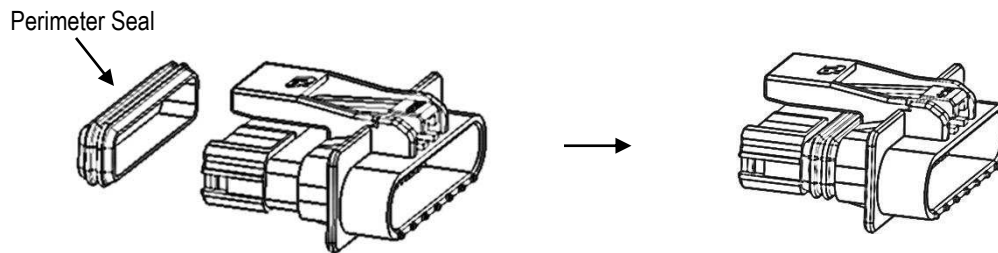

Figure 5
2. Install the perimeter seal onto plug housing. Refer to Figure 5